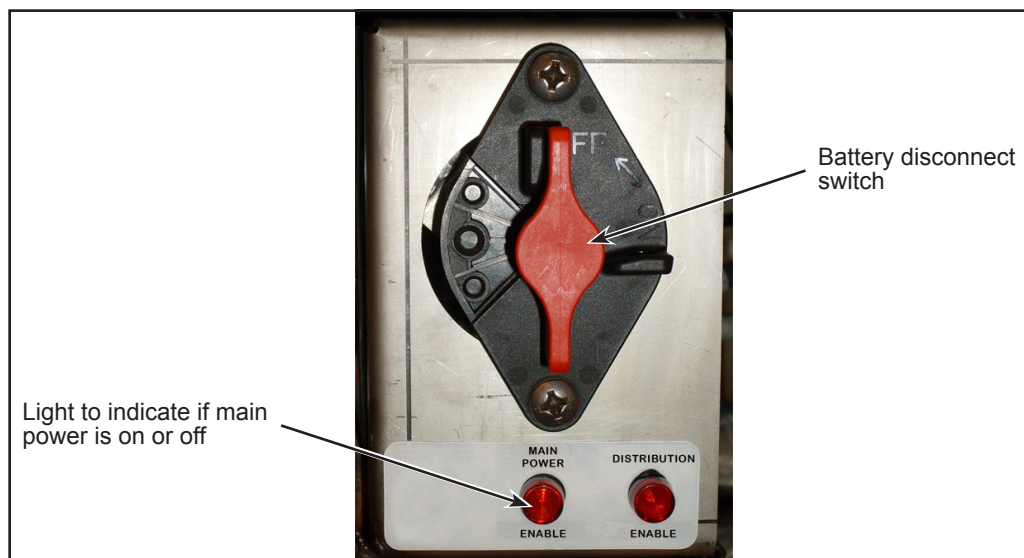

Figure 2 - Location of Battery Compartment
- 1.3. Set the battery disconnect switch in the battery compartment to the OFF position (see Figure 2). The ENABLE lights will extinguish.